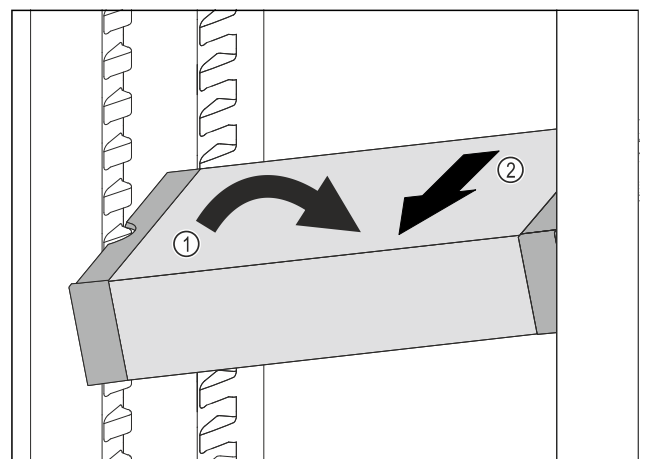

Fig. 158
- ▶ Set VarioSafe in refrigerator compartment at an angle. *Fig. 158 (1)*
- ▶ Take VarioSafe out to the front. *Fig. 158 (2)*